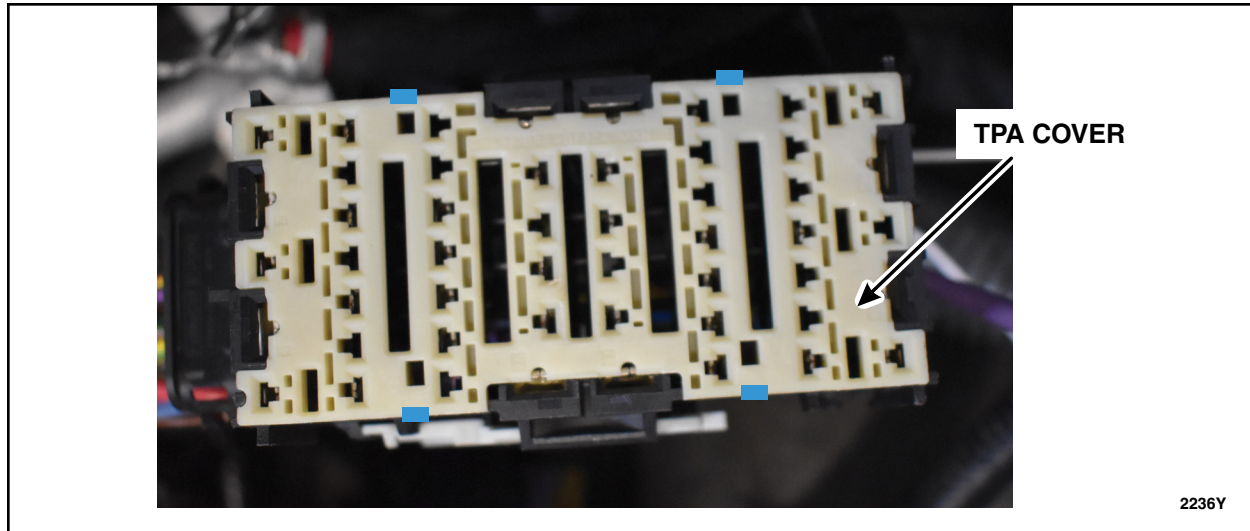

FIGURE 31
36. Using a small flat-head screwdriver, gently pry on the sides of the Terminal Position Assurance (TPA) cover, to lift the cover to the first hard stop. Do this by inserting the screwdriver between the TPA cover and the shell of the connector in the areas identified in blue. See Figure 31.